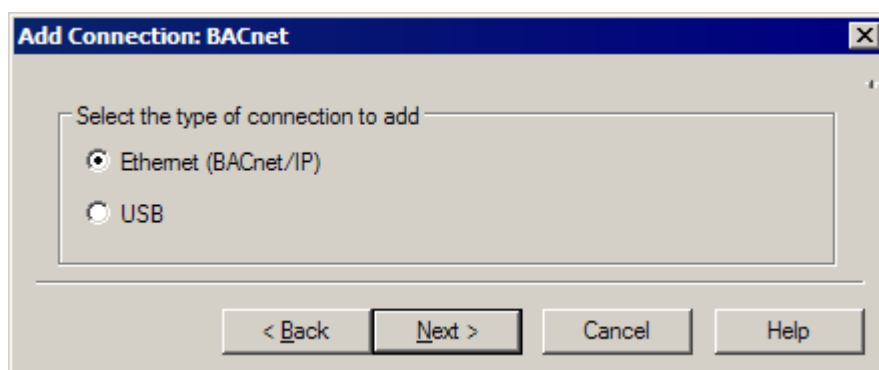

Figure 5-7: Select Ethernet (BACnet/IP)
3. Select Ethernet (BACnet/IP), then select Next (Figure 5-7).